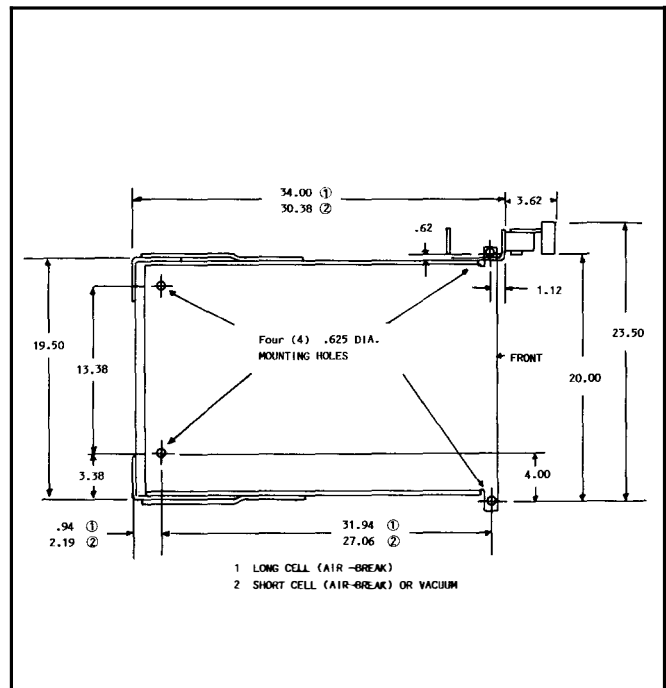

Figure 2. Cell Module Dimensions - Top View
Provide four (4) 3/8" diameter bolts or studs to line up with the .625 dia. holes at the locations shown in Figure 2 for attaching the bottom of the cell module to the supporting structure of the enclosure.